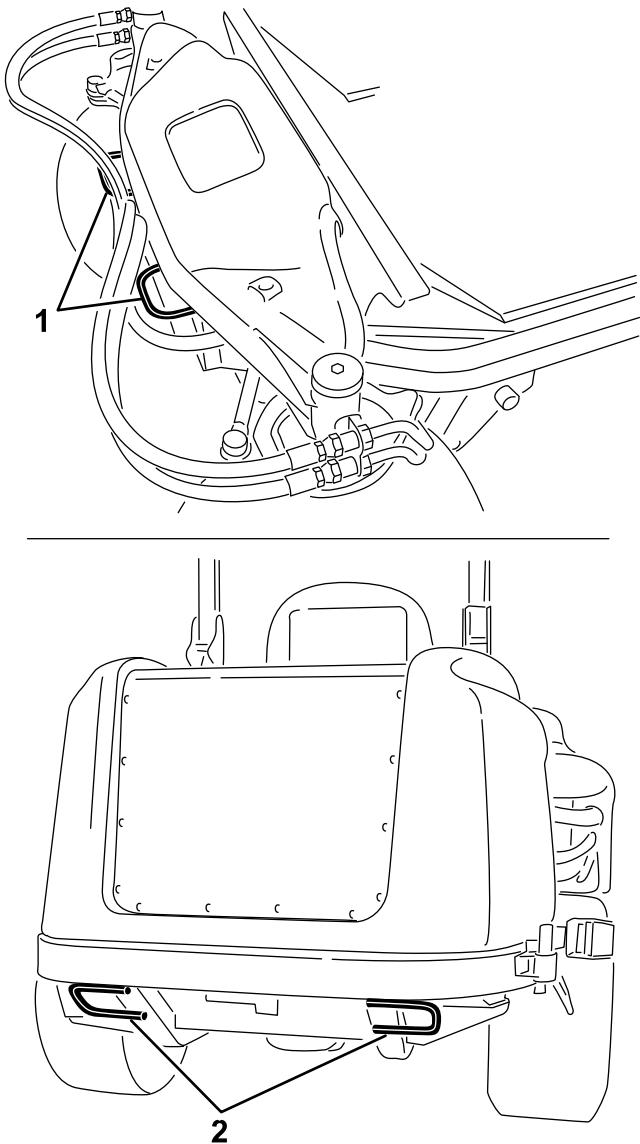

Figure 21
- Securely fasten the machine to the trailer or truck with straps, chains, cable, or ropes as required by local traffic regulations in your area (Figure 21).